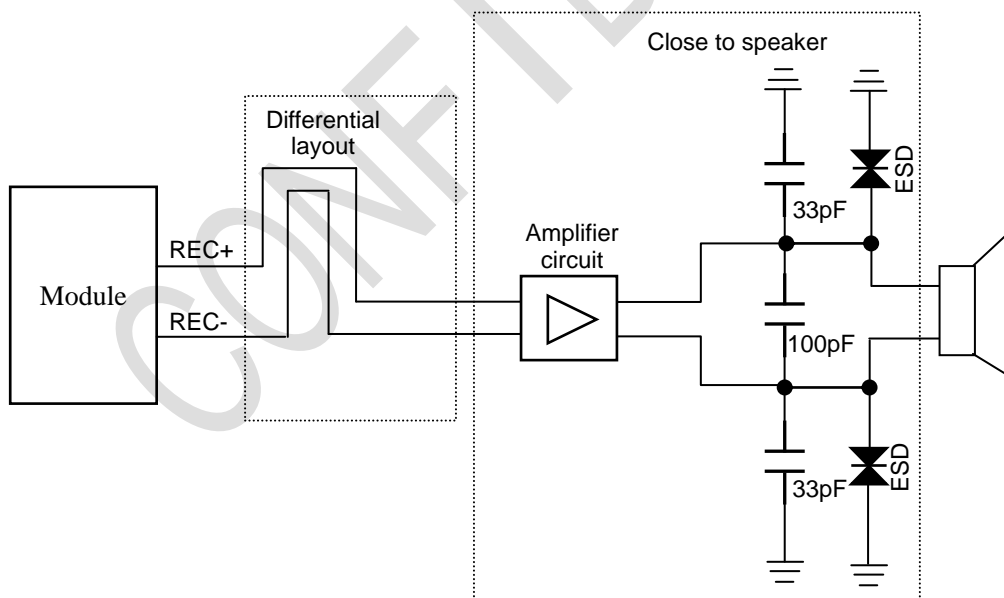

Figure 3.5-3 Speaker Amplify Circuit
(3) If you need the module to provide more power audio output, you can connect REC+/REC- to an external audio PA. The reference circuit is shown in Figure 3.5-3.